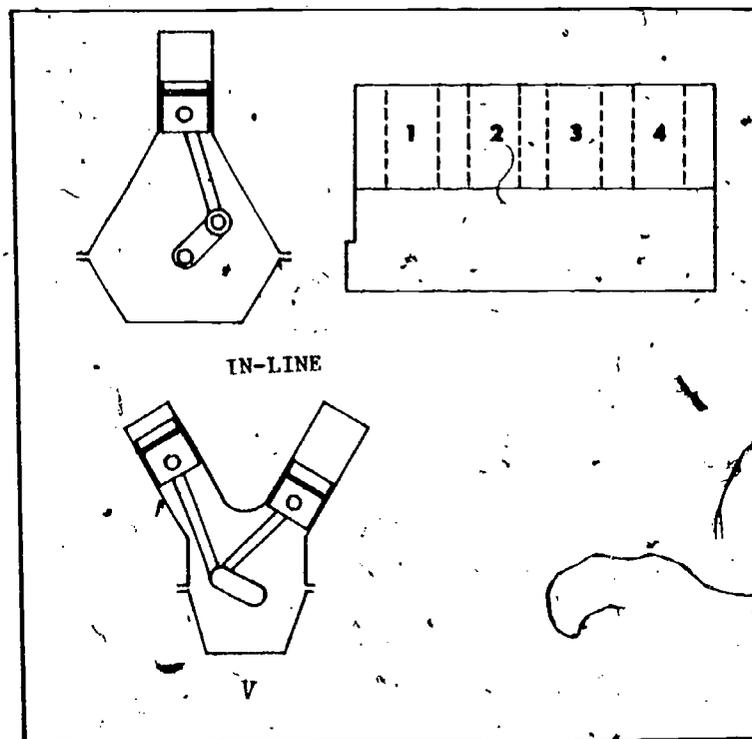

Fig 2-3. In-line and V-engine cylinder arrangement.
- (3) Cylinder arrangement (fig 2-3). - A common engine classification is by cylinder arrangement. An engine with the cylinders one behind the other is classified as an in-line engine. If, when viewed from the end, the cylinders form a V, it is known as a V-engine. Some examples of other arrangements are: the slanted engine and the horizontal engine. Most items of engineer equipment use the in-line or V arrangement.